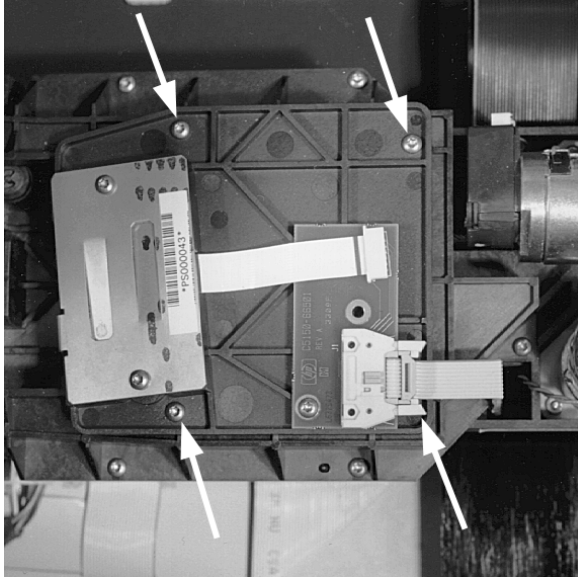

Figure 5-22. Bar Code Reader Assembly and Interface Cable
2. Disconnect the bar code interface cable from the PCA on the top rear of the bar code assembly mount (the lower right arrow on Figure 5-22).